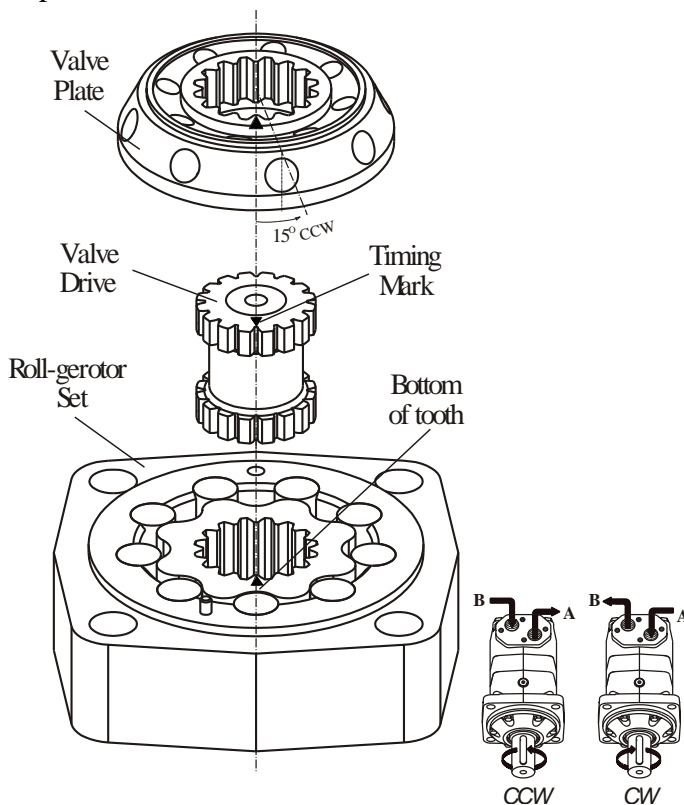

Fig.13
17. Align mark on valve drive with a hole in the outer rim of the Valve Plate. Turn Valve Plate clockwise (as shown on Fig.13) until splines in the two parts engage / rotation about 15°.